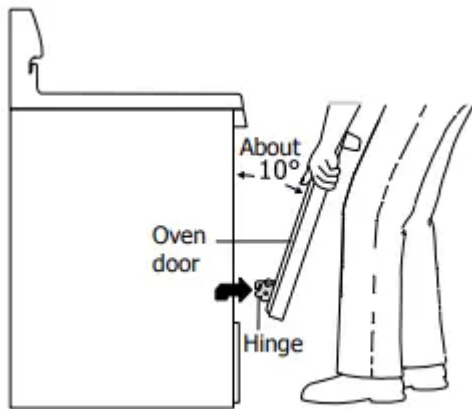

Fig. 3
1. Firmly grasp both sides of oven door along the door sides (Do not use the oven door handle - see fig 3).